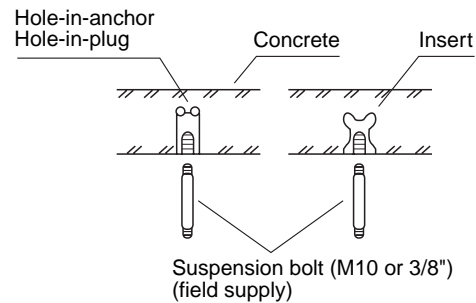

Fig. 3-65
- (2) Drill holes at the 4 points indicated on the full-scale diagram.
- (3) Depending on the ceiling type:
- a) Insert suspension bolts as shown in Fig. 3-65.